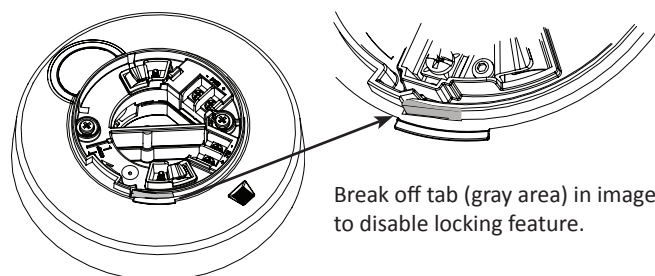

FIGURE 12: Disable Locking Feature
2. The locking feature can be disabled. To disable the locking feature, break off the locking tab before installation (FIGURE 12).